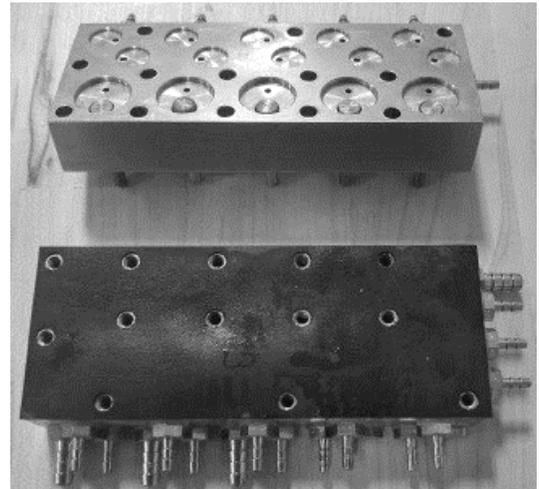

Fig. 2
Step 8 - Rinse the replacement control block diaphragm with water to remove any powder and apply while still wet to the block, lining up with holes and checking for correct positioning. (Fig. 2)